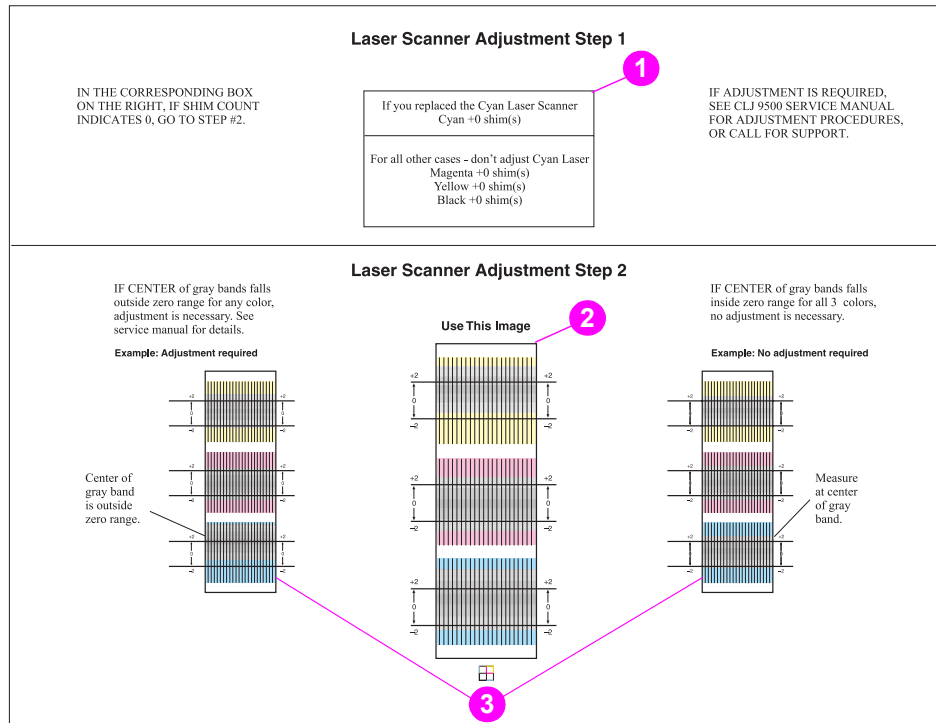

Figure 127. Reading the laser/scanner adjustment page
- 1 Look at the laser/scanner adjustment page. If the numbers under the *Laser/Scanner Adjustment Step 1* are all zeros (callout 1; figure 127) and the center of the three gray bands under the *Laser Scanner Adjustment Step 2* are inside of the zero range for all three colors (callout 2; figure 127), then no adjustment is required and this procedure is complete.
The laser/scanner adjustment page has examples to help interpret the position of the gray bands (callout 3; figure 127). An example of "Adjustment required" is located on the left side of the page. An example of "No adjustment required" is located on the right side of the page.